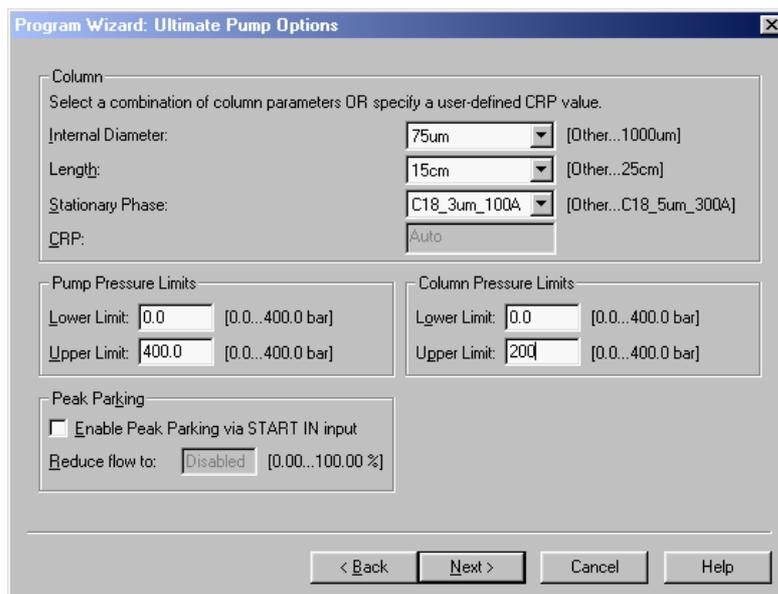

FIGURE 4-11 The UltiMate Pump Options Box
g) Setup the pressure limits for the separation column and the UltiMate pump, and define separation column parameters (e.g. I.D., length and stationary phase) in the *UltiMate Pump Options* box (FIGURE 4-11).